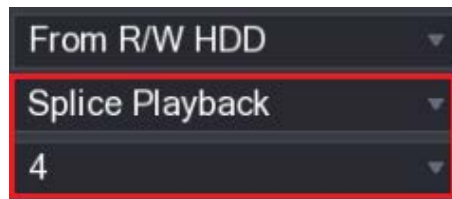

Figure 5-106
Step 2 In the **Search Type** list, select **Splice Playback**; In the Split Mode list, select **4**, **9**, or **16**. See Figure 5-106.